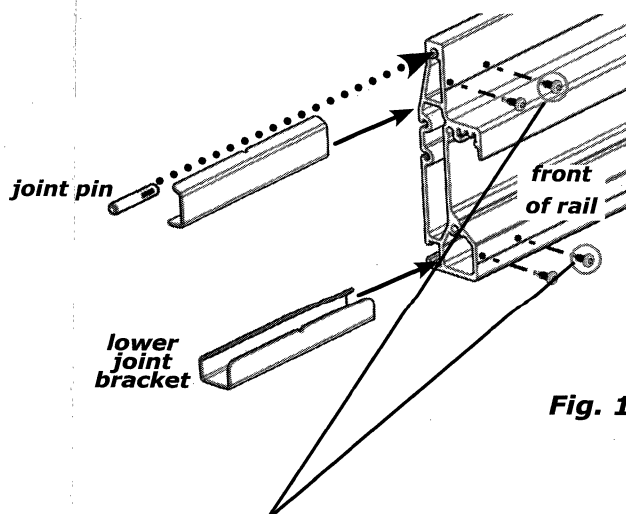

Fig. 1
1. Pound barbed end of rail joint pin **halfway** into lower rail (Fig.1).